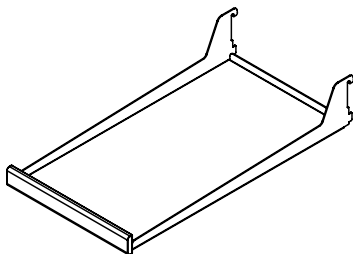

Figure 36
(1) half width flat glass cantilever shelf. (See Figure 36).